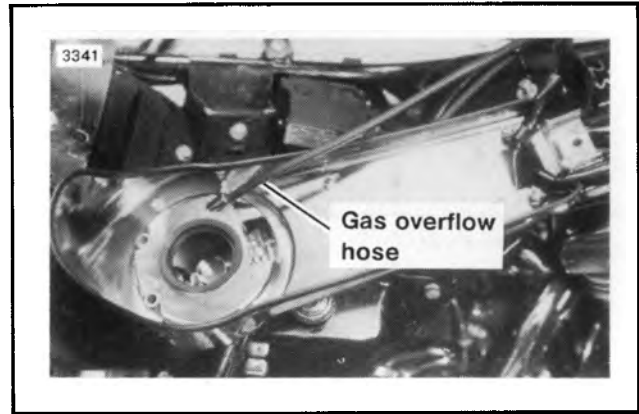

Figure 8-57. Underside of Console Pod
8. See Figure 8-57. Turn console pod over and remove overflow hose.